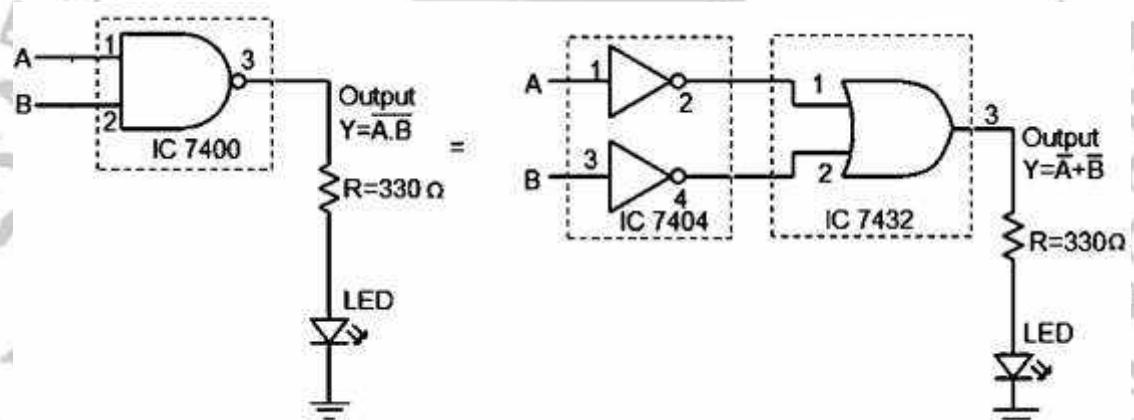

Fig 5.2: De Morgan's second theorem
6. Repeat the process for figure 5.2.